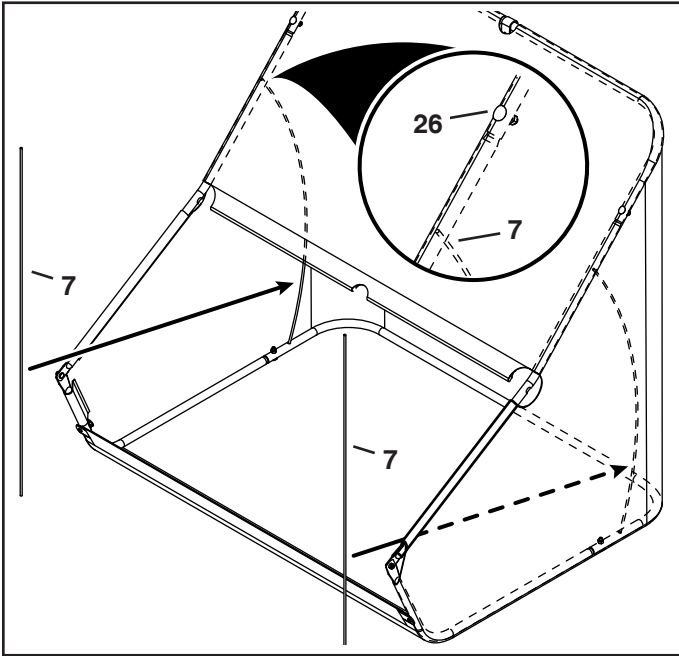

FIGURE 15
25. Insert the hopper support rods (7) into the hole **beneath the curved head bolt** (26) in each upper hopper tube. Flex and insert the rod into the hole in the bottom rear hopper tubes as shown in figure 15.
- NOTE:** The hopper support rods will flex about as much as shown in figure 15 when they are assembled.